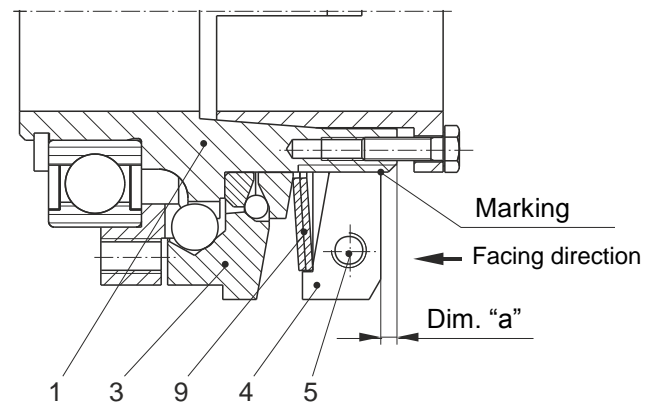
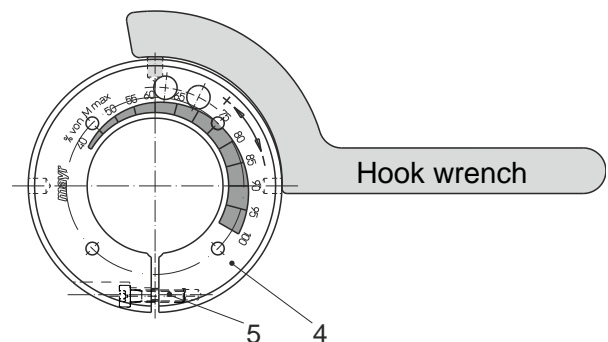
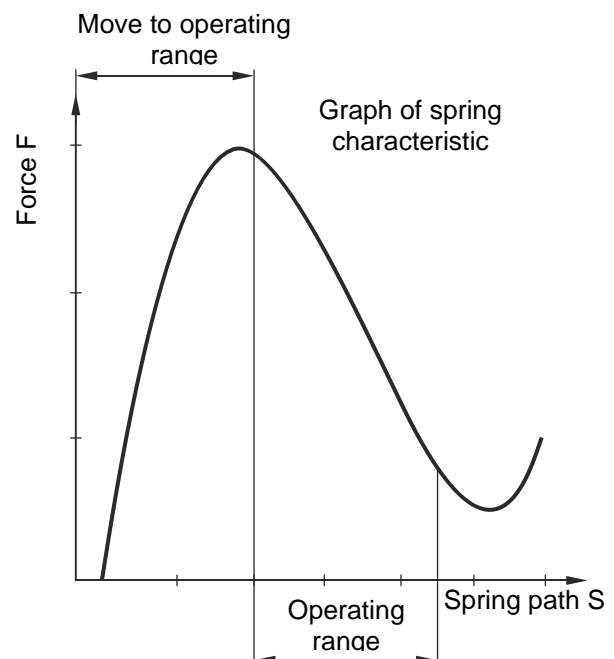

Fig. 10
Fig. 11
Fig. 12
Torque adjustment is carried out by turning the adjusting nut (4). The installed cup springs (9) are operated in the negative range of the characteristic curve (see Fig. 12); this means that a stronger pre-tensioning of the cup spring results in a decrease of the spring force.
It is possible to check the "**Spring operation in the operating range**" (Fig. 12) using the dimension "a" (distance from the adjusting nut (4) facing side to the hub (1) facing side, as shown in Fig. 10).
You should be facing the adjusting nut (4) as shown in Fig. 10 and Fig. 11.
- b) Loosen the locking screw (5) in the adjusting nut (4).
c) Turn the adjusting nut (4) using the engraved adjustment scale (Fig. 11) clockwise or anti-clockwise using a hook or a face wrench until the required torque is reached.
d) The required torque results from the marking overlap on the hub (1) and the percent value on the adjusting nut (Item 4 / Figs. 10 and 11).
e) Re-tighten the locking screw (5) (please observe the tightening torque acc. Table 5).
Adjusting the adjusting nut (4) or distorting the cup spring (9) outside of the cup spring characteristic curve (see Fig. 12) stops the clutch functioning.